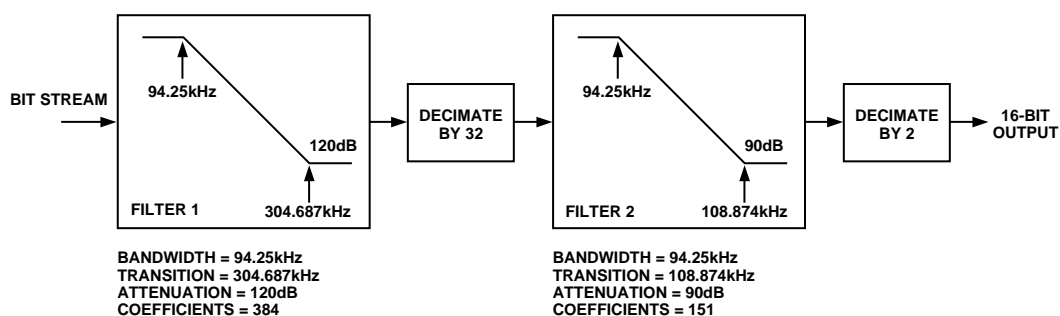

Figure 1. Digital Filter (Consists of Two FIR Filters). This Filter is implemented on the AD7722.
**TERMINOLOGY (IDEAL FIR FILTER USED WITH AD7724 [FIGURE 1])****Integral Nonlinearity**